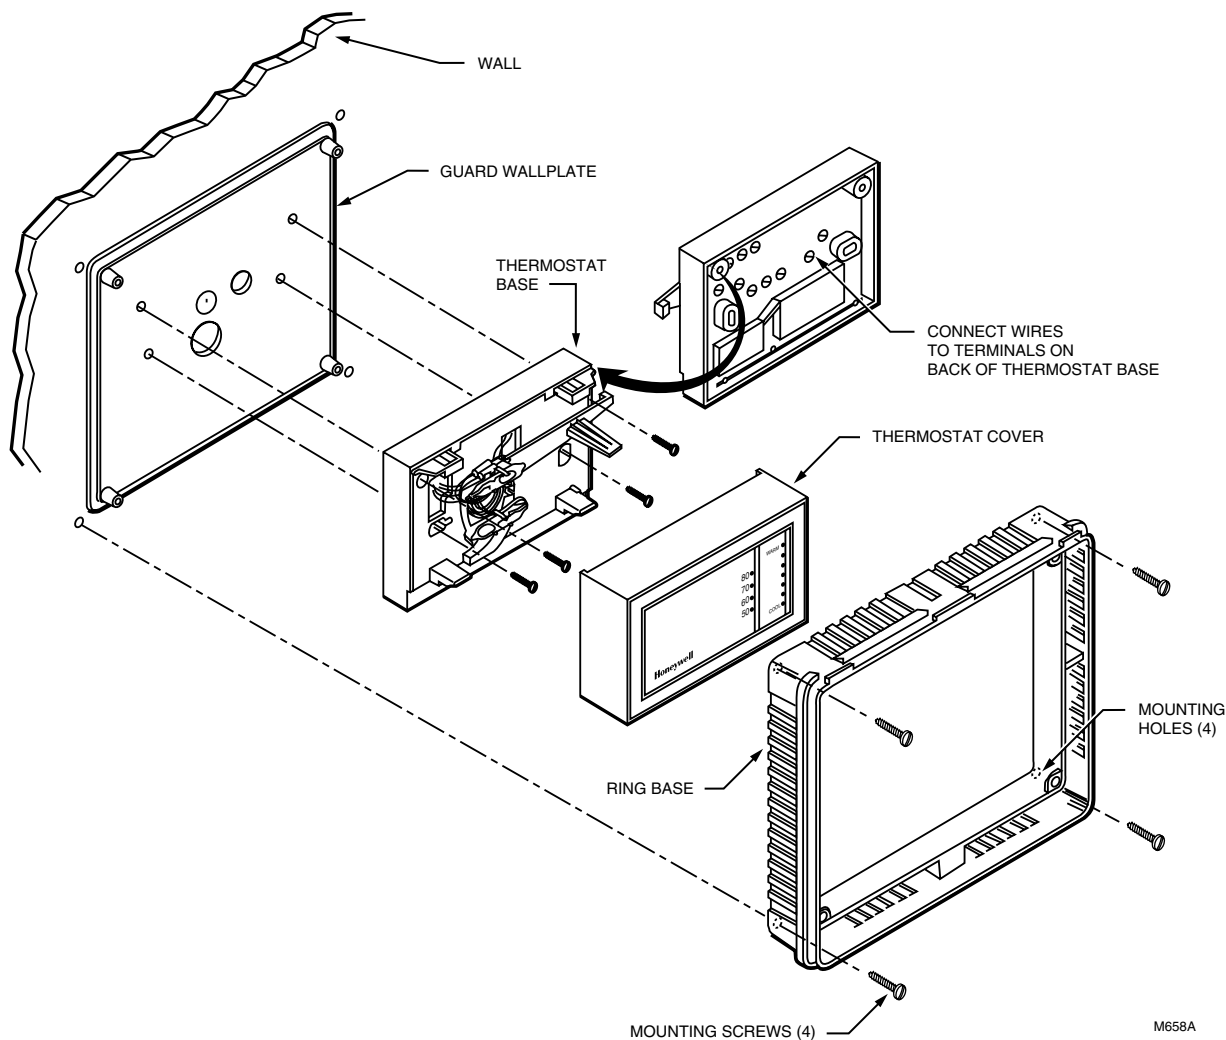

Fig. 11. Mount guard wallplate and ring base on back-wired thermostat.
Back-wired Thermostat (Fig. 11)
- ④ Mount the smooth side of the guard wallplate facing the thermostat and run the system wires through the wiring hole in the guard wallplate. The guard wallplate must be placed between the thermostat and the wall. See Fig. 11.
- ⑤ Back-wire the thermostat. Refer to the instructions provided with the thermostat.
- ⑥ Mount the thermostat and the guard wallplate to the wall using the 1-1/4 in. sheet metal screws provided with the thermostat. Make sure the guard wallplate is placed between the thermostat and the wall.
- ⑦ Place the thermostat cover on the thermostat.
- ⑧ Mount the guard ring base over the thermostat and the guard wallplate.
- ⑨ Attach the ring base using four 1-1/4 in. sheet metal screws or four anchors and screws (provided).